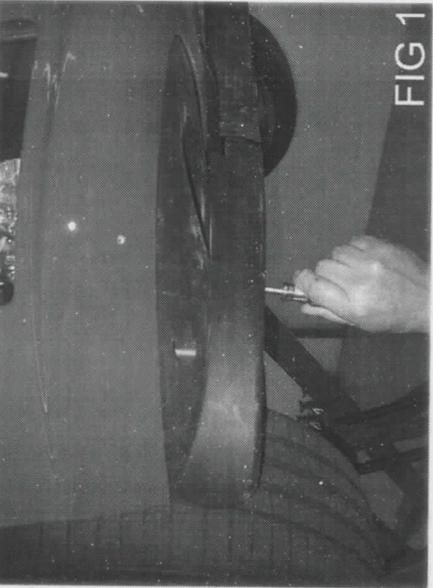

FIG 1
2. REMOVE RIGHT AND LEFT FACTORY AIR DAMS. SET ASIDE FOR LATER REINSTALLATION (SEE FIG. 1).